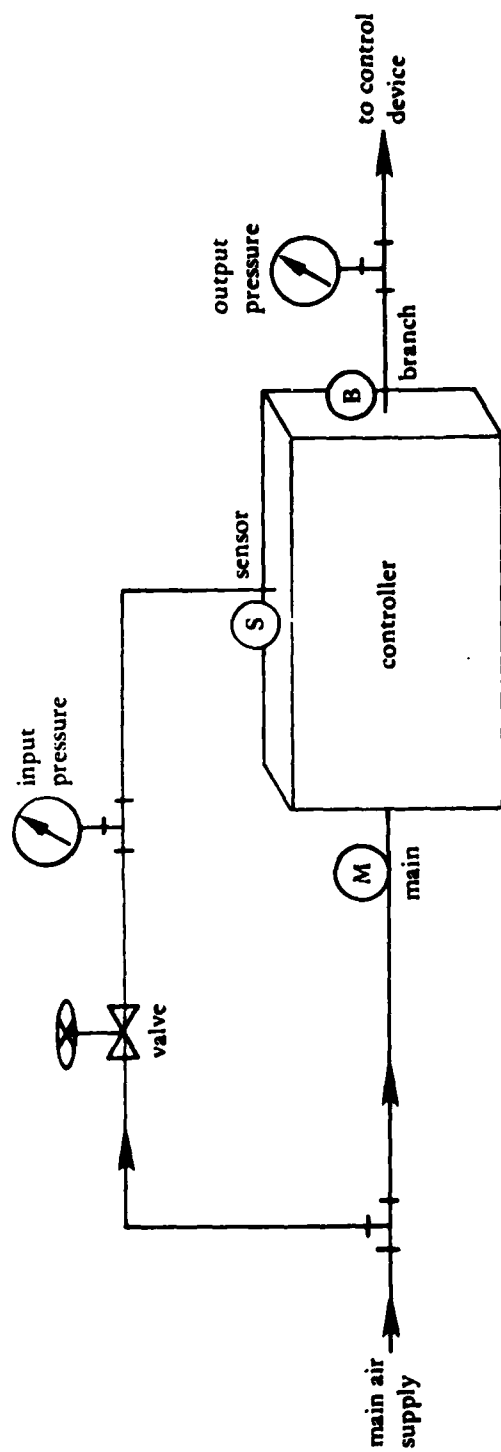

Figure 5. Illustration of test apparatus.
- (1) Disconnect the sensor (or input) line from the controller.
- (2) Connect a calibrated pneumatic gauge to the input port of the controller with a "T" connection (see Figure 5).
- (3) Connect an adjustable restriction, such as a needle valve, to the "T" connection.
- (4) Connect the free end of the adjustable restriction to the main air supply
- (5) Connect a calibrated pneumatic gauge to the output port of the controller.
- (6) Adjust the restriction until the input pressure gauge reads the value of the pressure corresponding to the desired setpoint. You will need data on sensor span and pressure range for this step.
- (7) Turn the setpoint adjustment screw until the output pressure equals the mid-point pressure value (typically 8 psi).
- (8) Adjust the setpoint scale to read the selected value of setpoint.
- (1) Disconnect both the primary and secondary sensors from the controller and install calibrated pressure gauges and adjustable restrictions in their place following the example of Figure 5.
- (2) Connect the open ends of the adjustable restrictions to the main air supply.
- (3) Connect a calibrated gauge to the output port.
- (4) Select one end of the range of primary sensor, say V_{1A} , and adjust the restriction until the gauge on the primary sensor port reads the value of V_{1A} .
- (5) Adjust the restriction on the second sensor port until the gauge for the secondary sensor reads the value of V_{2A} .
- (6) Check to see that the settings for authority and proportional band are as specified. Adjust these values to specification if necessary.
- (7) Turn the setpoint adjustment screw until the output pressure is at the desired extreme value (e.g., 3 or 13 psi).
- (8) Adjust the setpoint scale to read the calculated value of setpoint.
- (9) Adjust the restrictions on the sensor ports so that the input gauges read the values of V_{1B} and V_{2B} . The output pressure should now read the other extreme value (e.g., 13 or 3 psi).
- (10) After the HVAC system returns to equilibrium, recheck the calibration.